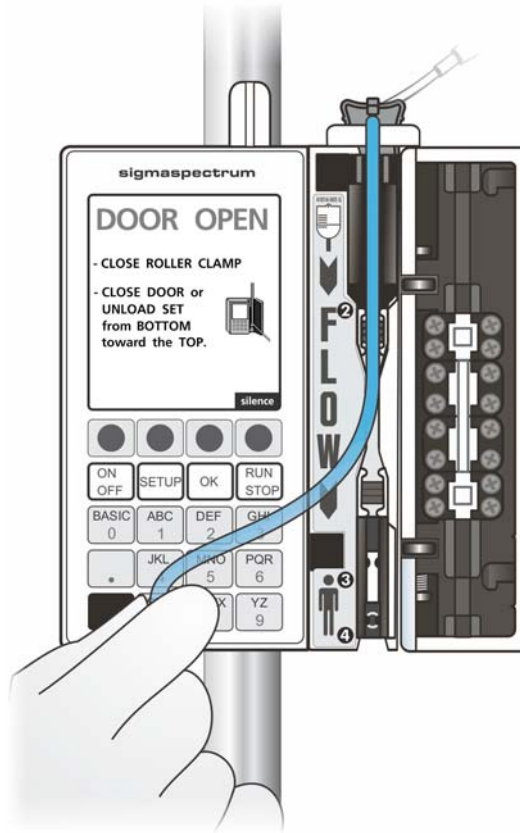

Figure 19. Remove the IV Set.
4. With the slide clamp resting in the keyhole, using one hand, pull the tubing out and up from the bottom of the Pump towards the top. This ensures the slide clamp will not be inadvertently opened when removed from the keyhole. See Figure 19.